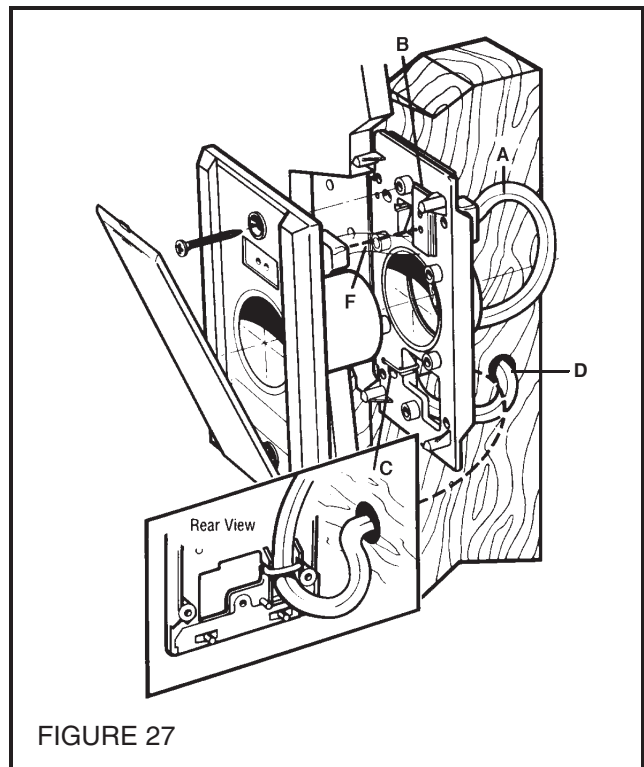
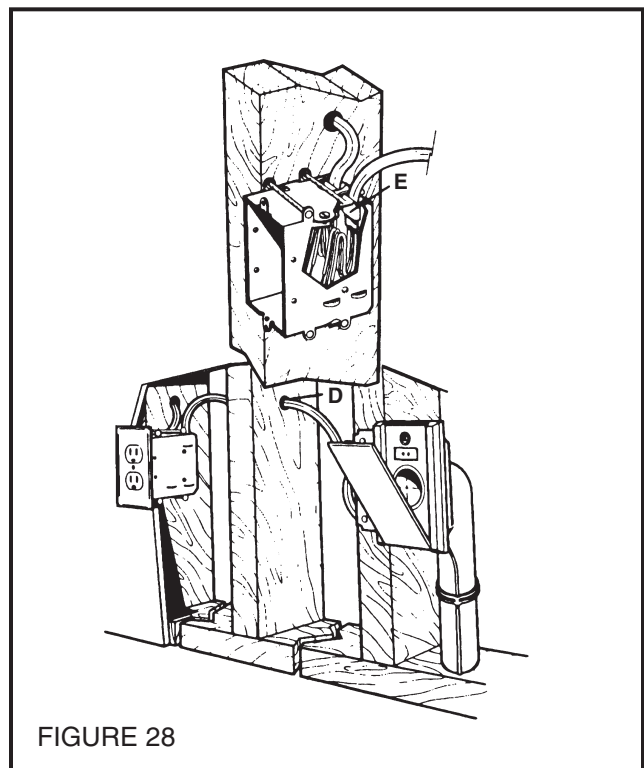

FIGURE 27
FIGURE 28
1. See Figure 27. Fasten the mounting plate to a stud within three studs (48") of an electrical outlet box. Measure and mark the wire 10" from the plug (A). Feed the wire through the top hole in the mounting plate (just above the circular opening). Snap the molded plug into the mounting plate as pictured (B). This will keep it secure and out of harm's way during drywalling and finishing. Line up the wire at the previously measured 10" mark with the strain of relief channel on the back of the mounting plate. Secure it in place with the supplied wire tie (C).
2. Run the inlet wire to the adjacent electric box. If you must run wire through a stud, drill directly through the center of the stud (D).
3. See Figure 28. Place the exposed ends of the two wires into the electrical box through a strain relief channel (E). Tighten the strain relief channel (do not overtighten) on the white sheathing leaving 1/2" of this sheathing exposed inside of the outlet box.